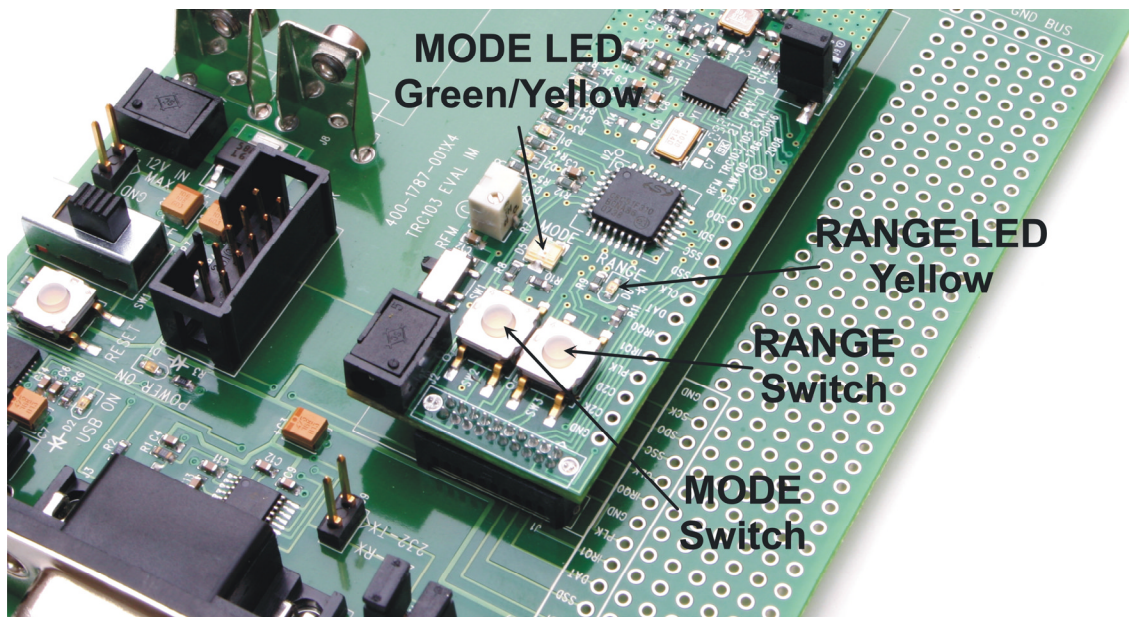

Figure 6 - Initial Testing Using Range Test Function
3. See Figure 6 below. On one board, briefly press and release the RANGE button. The RANGE LED will illuminate continuously. This is the "receiving" board.